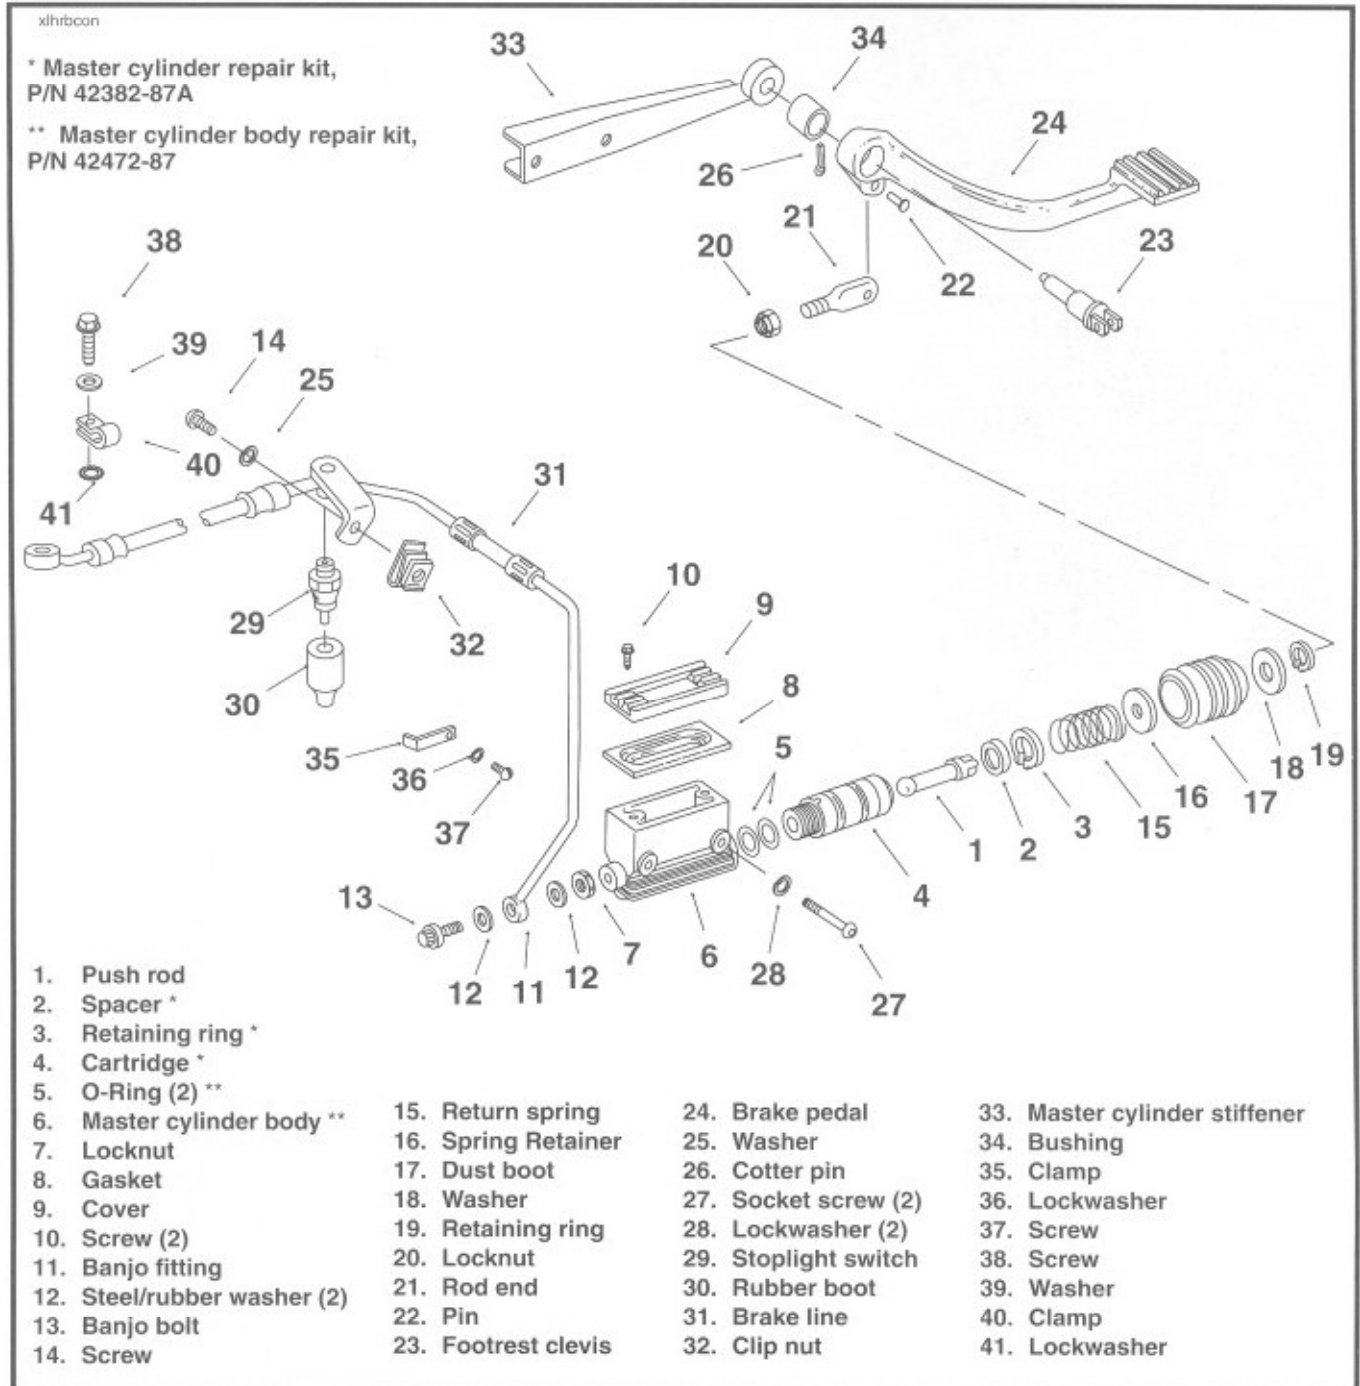
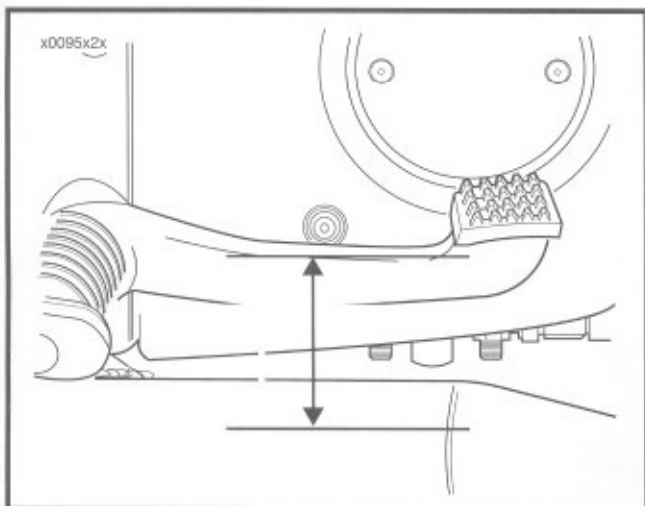

Figure 2-47. Rear Brake Master Cylinder and Linkage
Figure 2-48. Rear Brake Pedal Adjustment
See Figure 2-47. Loosen locknut (20). With motorcycle on level surface, adjust push rod (1) so that brake pedal is parallel with floor (see Figure 2-48). Tighten locknut.
## REMOVAL/DISASSEMBLY (Figure 2-47)
## CLEANING, INSPECTION AND REPAIR (Figure 2-47)
1. See Figure 2-47. Insert original push rod (1) into bore at unthreaded end of cartridge (4). Install spacer (2) over end of push rod. Install retaining ring (3) in groove next to spacer inside cartridge bore. Slide two **new** O-rings (5) into external grooves on cartridge (4). Insert cartridge into master cylinder body (6). Align slot at top of cartridge with key in master cylinder body. Push cartridge through master cylinder body until cartridge bottoms in bore. Install locknut (7). Tighten locknut to 30-40 ft-lbs (41-54 Nm) torque.
2. Place protective shields over vise jaws and lightly clamp master cylinder body in vise with push rod (1) upright.
3. Place return spring (15) over push rod (1). Place spring retainer (16) on top of spring. Slip large I.D. end of dust boot (17) over retainer and spring. Seat the small I.D. end of boot against spring retainer (16). Be sure vent/drain hole in boot is at the bottom.
4. Place washer (18) on top of boot. Push down on washer to compress spring (15). With spring compressed, install **new** retaining ring (19) in groove of push rod (1).
**To avoid leakage after assembly, verify that washers (12), bolt (13), banjo fitting (11) and bore of master cylinder (6) are completely clean.**
5. Position master cylinder next to sprocket cover. Position **new** steel/rubber washers (12) on each side of banjo fitting (11). Insert bolt (13) through washers and banjo fitting (11). Thread bolt into cartridge and tighten to 17-22 ft-lbs (23-30 Nm) torque.
6. Position large I.D. end of dust boot (17) into groove in master cylinder body (6).
7. Install clamp (35), screw (37) and lockwasher (36) to secure rear brake line (31) to sprocket cover. Tighten clamp screw to 45-65 **in-lbs** (5-7 Nm) torque.
9. Turn push rod (1) at flats to thread on rod end (21).
10. Position master cylinder body (6) over mounting holes in sprocket cover. Secure with screws (27) and lockwashers (28). Tighten screws to 155-190 **in-lbs** (17.5-21.5 Nm) torque.
12. Adjust push rod until brake pedal is parallel with floor, as shown in Figure 2-48. Tighten locknut (20).
15. Install cover gasket (8), cover (9) and screws (10).
17. Remove master cylinder cover (9). Verify proper fluid level- see Step 12.